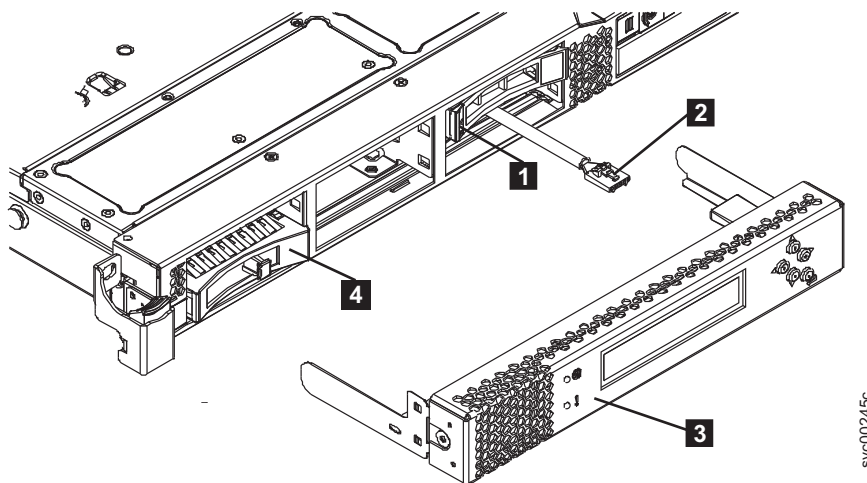

Figure 123. Boot drive location (SAN Volume Controller 2145-CF8 shown)
7. Slide the orange release latch (**1** in Figure 123) gently to the left to unlock the drive handle of the boot drive. For details on the boot drive location, see “Locating the IDs for disk drives: 2145-CG8 or 2145-CF8” on page 148.